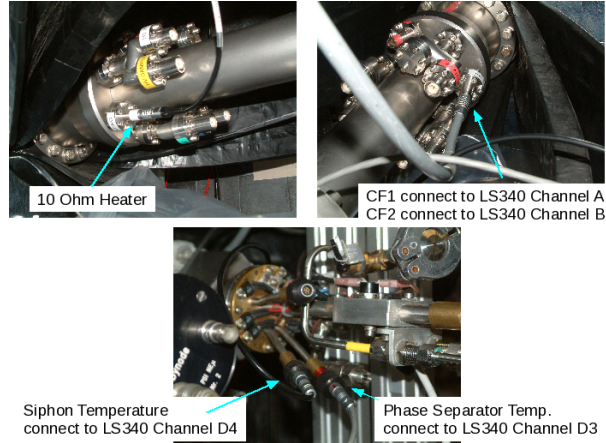
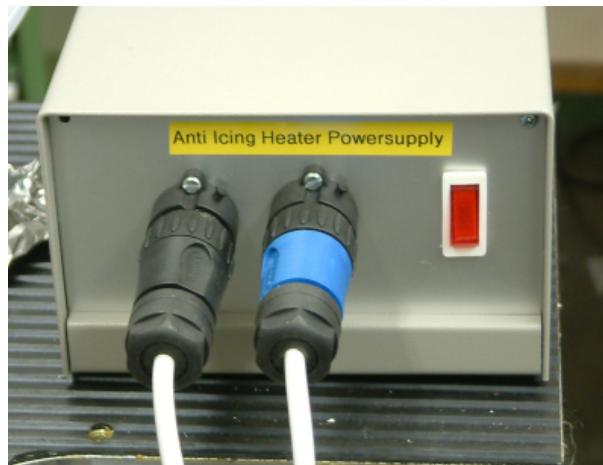

Figure 7.33: LowTemp thermometry connections needed
Figure 7.35: Anti-Icing power supply (the color of the connectors have no meaning)
- Make all electrical connections. Connect the thermometer cables as shown in Figs. 7.33 and 7.34. Do not forget to connect the two cables for the anti-icing heaters to the power supply (Fig. 7.35). One is connected directly to the LowTemp-2 cryostat, the other one in